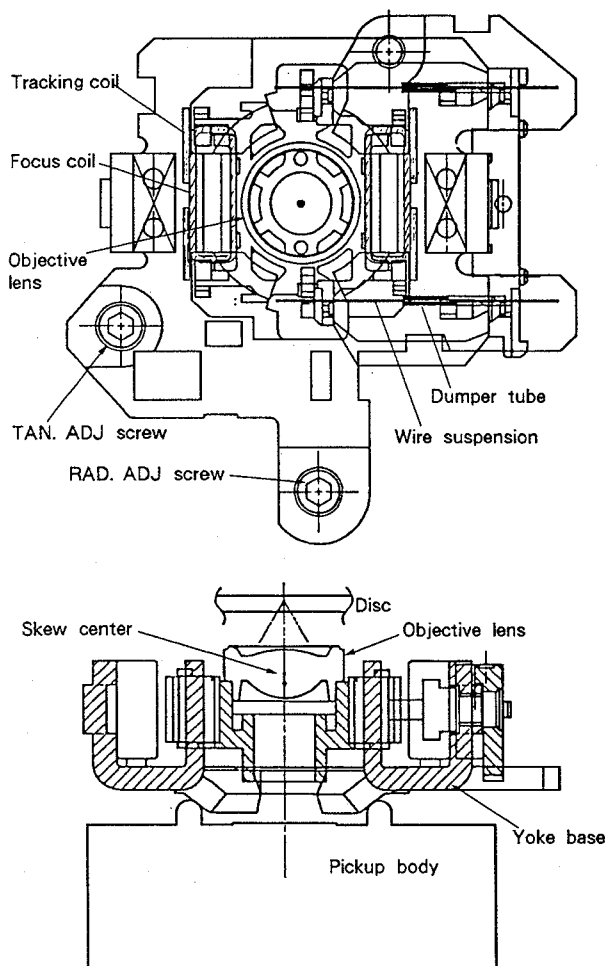

Fig. 9-2 Structure of actuator
(Fig. 9-2)
(6) Clean playback by skew adjustment in both tangential and radial directions (Fig. 9-2)